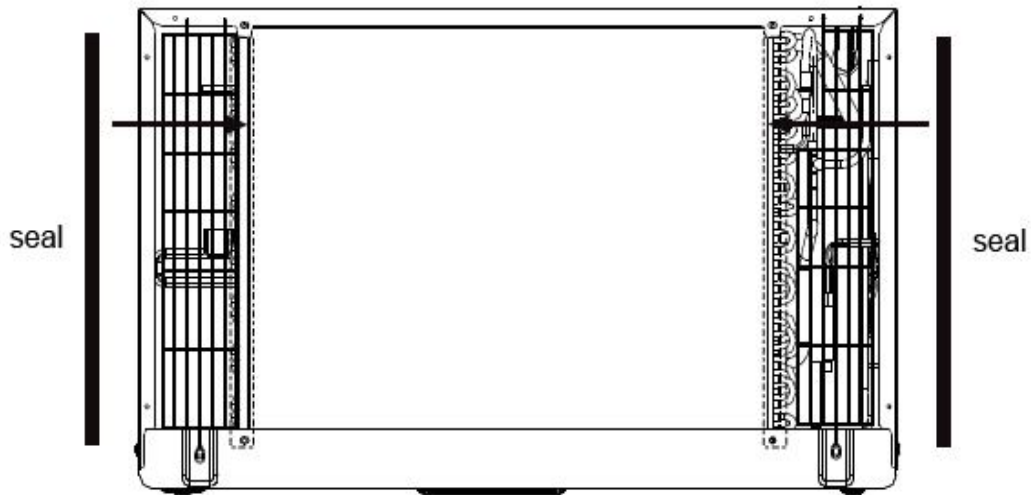

Fig. 1
1. Attach the 2 seal pieces (1" X 3/8" X 14") as shown in Fig. 1.